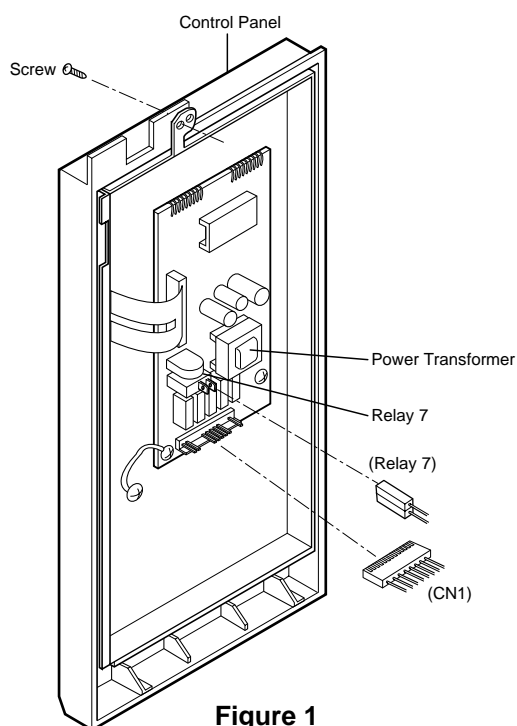

Figure 1
A. REMOVING POWER AND CONTROL CIRCUIT BOARD (Figures 1, 2 and 3)
- (1) Remove a screw securing the control panel assembly to the oven cavity.
- (2) Remove the control panel with pushing it upward.
- (3) Remove the connector (CN1) and wire leads (Relay7) from the circuit board.